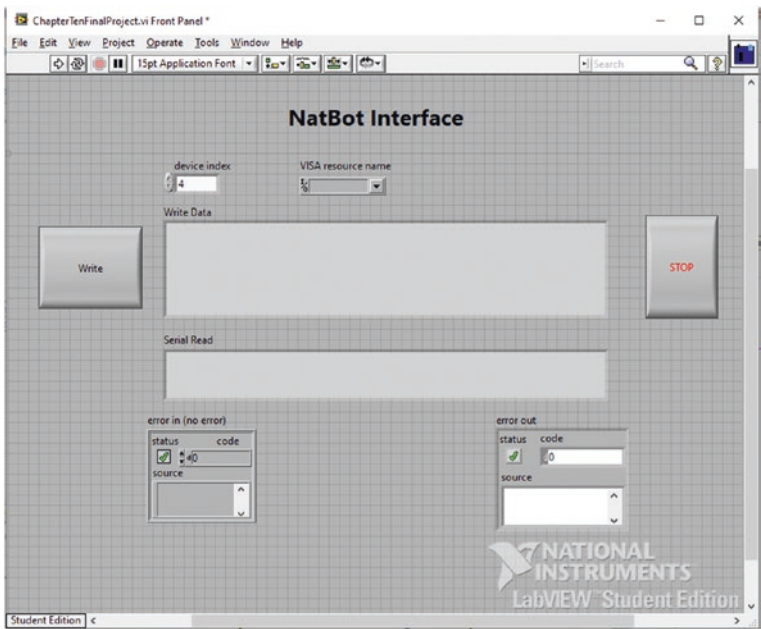

Figure 10-30. Add the text “NatBot Interface” to the Front Panel
4. Add a little flare to the Front Panel by double-clicking the Front Panel and writing “NatBot Interface” onto the Front Panel. See Figure 10-30.